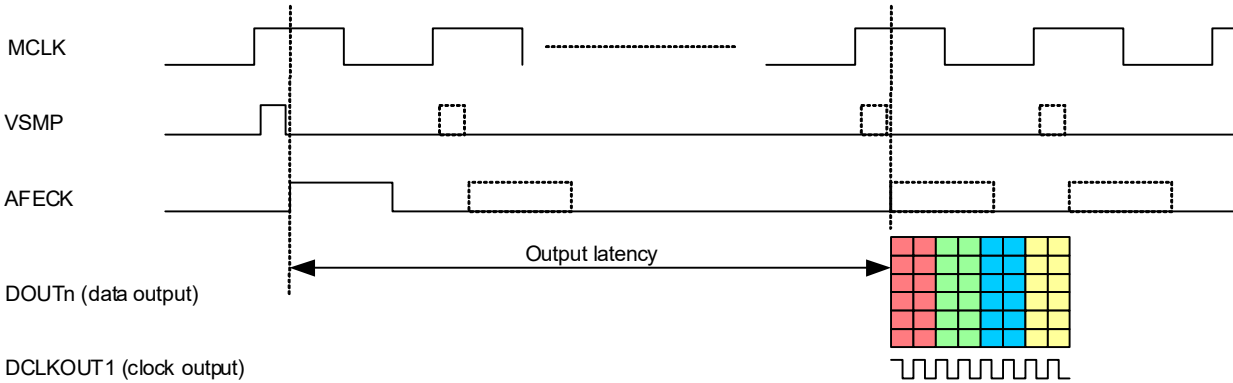

Figure 4-44. Data Output Timing (TG Mode, CMOS Output)
- The data output latency is illustrated in Fig. 4-44.